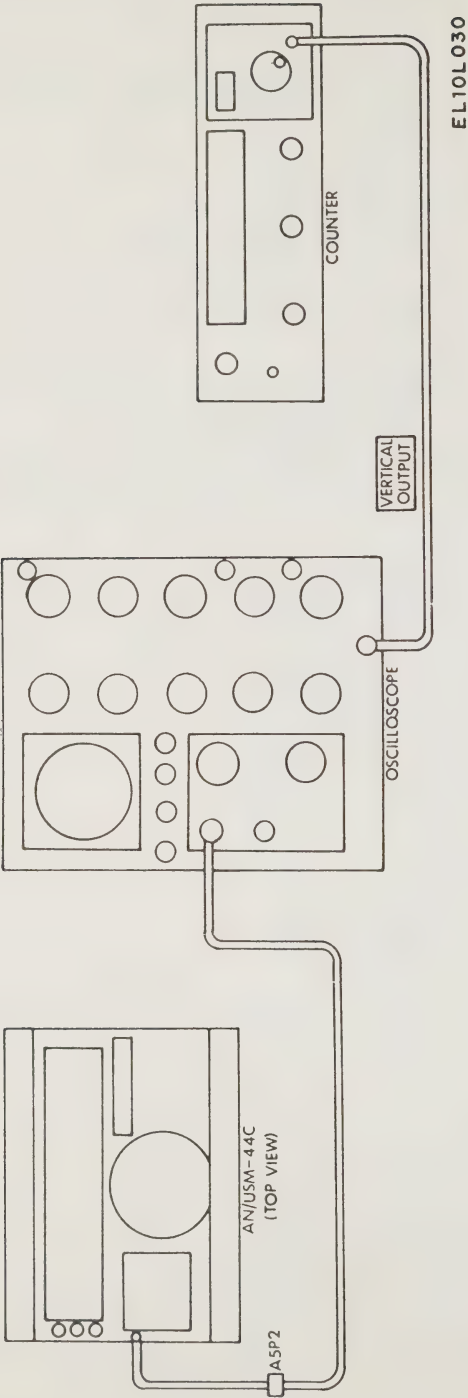

Figure 7-23. Marker frequency adjustment, test setup.
(1) Set MARKERS FREQ switch to 5 MHz and MARKERS VOLUME control fully clockwise.
(2) Connect test equipment as shown in figure 7-23.
(3) Adjust C3 on A7 for exactly 5MHz as indicated on the frequency counter.